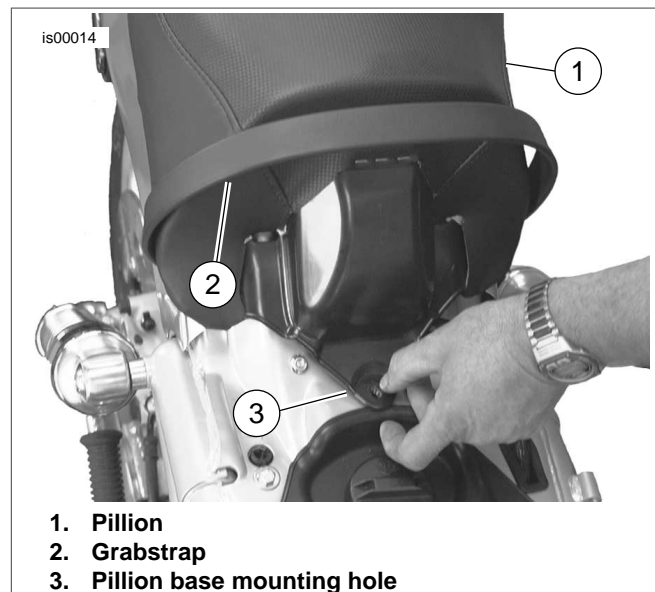

Figure 3. Pillion Base Mounting Hole
5. See Figure 3. Push the pillion (1) forward through the grabstrap (2) until the pillion mounting hole is approximately 25 mm (1 in.) forward of the hole (3) in the frame.
2. See Figure 3. Insert the Touring Pillion (1), from back to front, into position through the grabstrap.
3. See Figure 3. Push the pillion (1) forward through the grabstrap (2) until the pillion mounting hole is approximately 25 mm (1 in.) forward of the hole (3) in the frame.